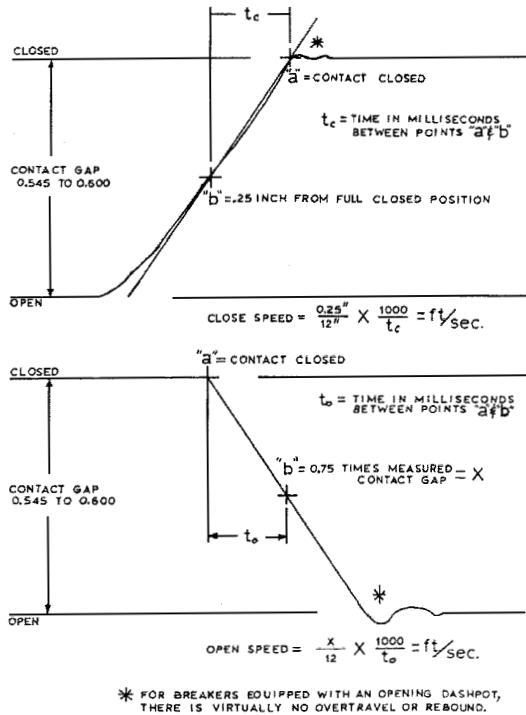
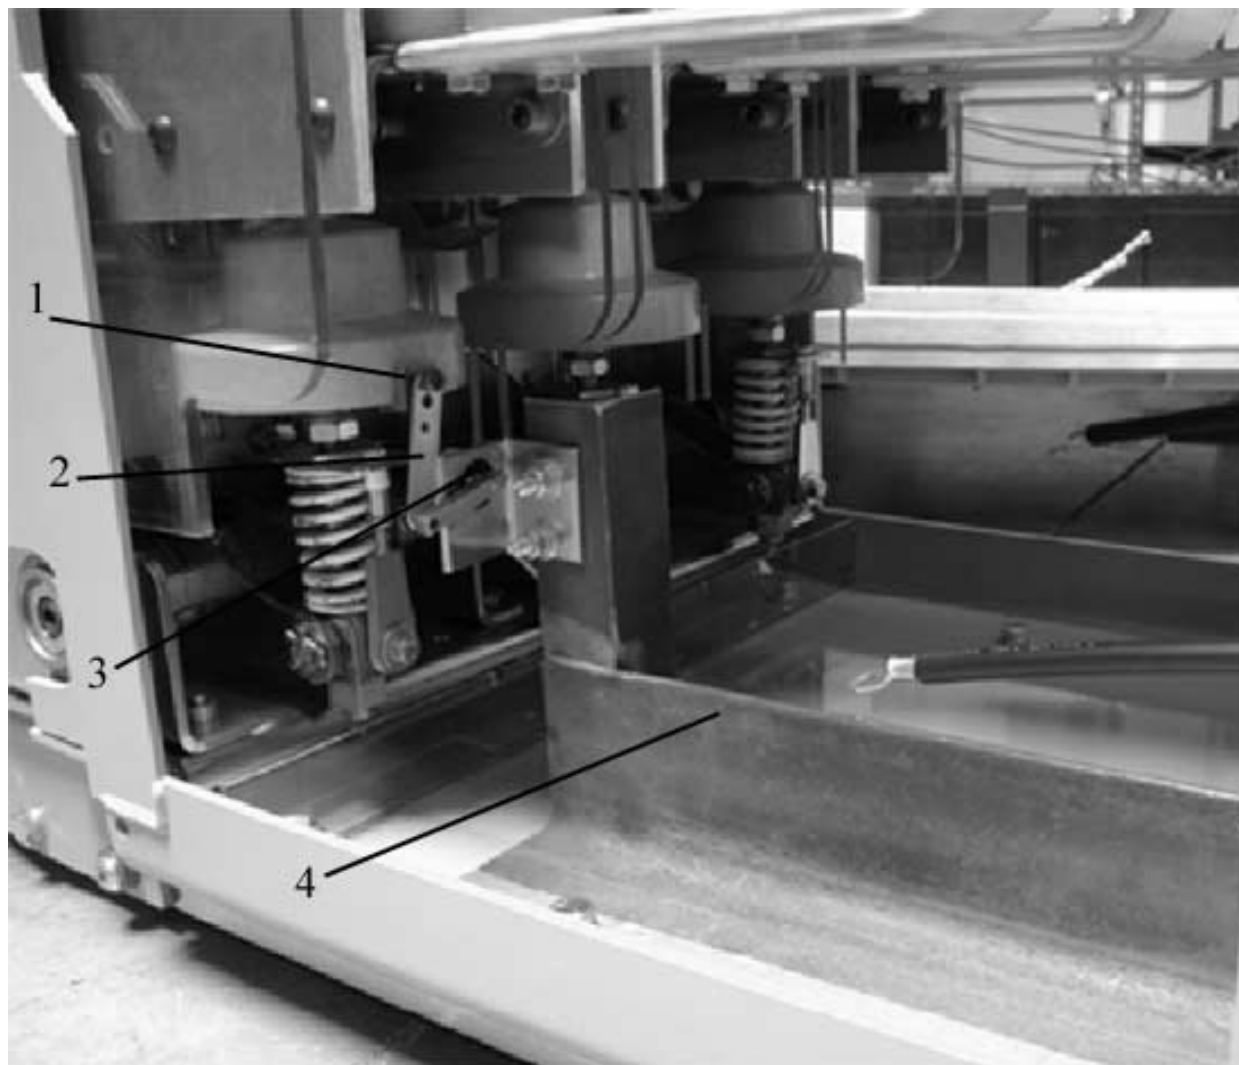

Figure 26. Sample Operating Speed Graphs
Figure 28. Travel Transducer Installation (Part # 0144D1238G001)
To determine contact velocity, a travel transducer and oscillograph are required. Optional travel transducer and linkage system can be obtained by contacting your local GE Sales Office by ordering part number 0144D1238G001. The travel transducer apparatus can typically be installed as shown in Figure 28. A typical travel trace and interpretation are shown in Figure 26.
4. After setting the contact wipe on each phase, torque the operating rod locknut (Figure 28, Item 5) to 40-50 foot pounds while holding the hex projection (8) to prevent the operating rod insulator (5) from turning. Tighten the clamp screws (7) to 8-10 foot pounds and trip the breaker open. This procedure prevents accidental twisting of the interrupter's operating rod by loading the contacts with the wipe springs and forcing relative rotation to occur at the clamp interface. After adjustment, re-measure the wipe dimensions (Figure 25). If the wipe settings are within the required limits, this indicates there is an adequate contact closing relationship between the poles.